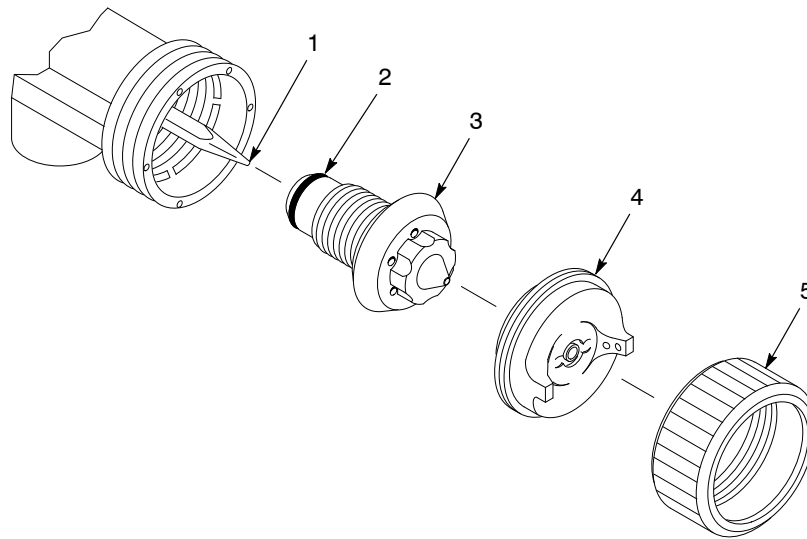

Figure 3-3 Fluid Tip and Air Cap Installation
1. See Figure 3-3. Remove the retaining ring (5) and air cap (4).
2. Install the O-ring (2) included with the fluid tip (3) in the groove in the fluid tip. Lubricate the O-ring with O-ring grease.